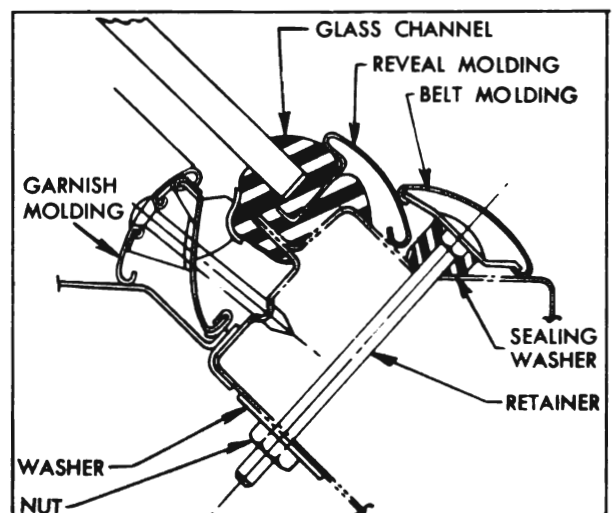

Figure 13-17—Sectional View of Belt and Reveal Moldings at Bottom of Windshield
The right hand section of front end belt molding overlaps the left hand section at the center. Three bolt type retainers attach each section of molding and one retainer attaches both sections where they overlap at the center. Rubber sealing washers are placed on each retainer bolt between the molding and cowl panel. See figure 13-17. A single screw attaches outer end of each molding to the body pillar.
3. Remove screws attaching ends of belt molding to body pillar, then remove nuts and washers from belt molding retainer bolts located along defroster duct under cowl. See figure 13-17. Remove molding with retainer and sealing washers from outside of body.